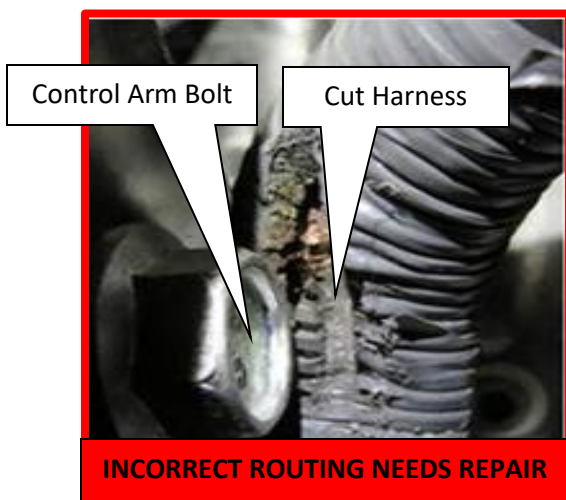

Figure 6
- Routing **INCORRECT**, similar to Figure 6,7,8, or 9, take a clear picture and follow the instructions in Step 7.